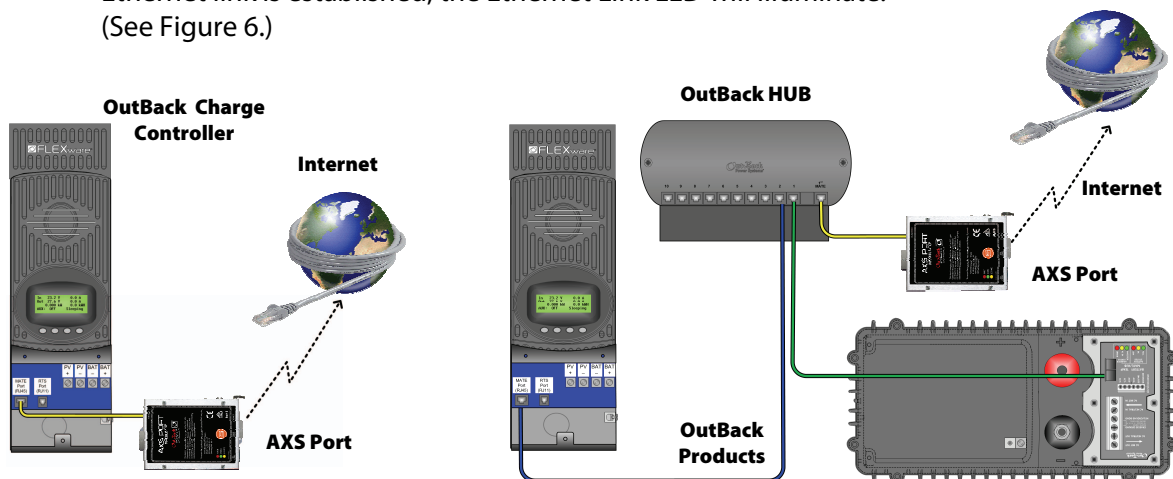

Figure 4 Cabling
- **Ethernet Link LED:** Illuminates when the AXS Port has established an Ethernet link with a network, or with the Internet. (See Figure 4.)
- **Power LED:** Illuminates when the AXS Port is powered up. (Power is supplied by an OutBack device. See Figure 4.)